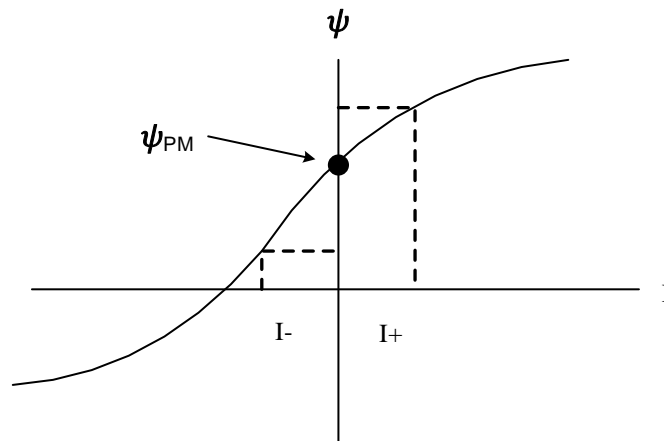
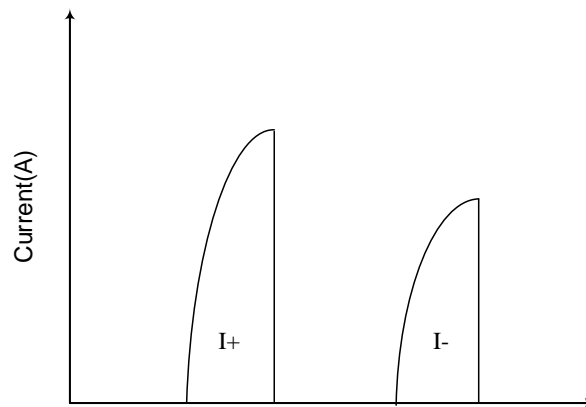

Figure 10: Total Motor Flux (ψ)
Figure 11: Current resulting from fixed time / voltage
Before we can describe our method, we need to see a simple picture of how the flux direction affects the current. If we look at the total flux in the motor (see Figure 10), it will be a combination of the Permanent Magnet (PM) flux and the flux created by exciting the stator, essentially the summation. So for a given current the flux will rise to a certain point. If we excite the stator for a specific value, the current that creates flux in the same direction will get there faster (faster rise time). The converse of this is that if we excite the stator with a specific voltage for a specific time, but in two directions, the current producing flux in the same direction as the PM flux will rise to a higher value in that given time. This is shown pictorially in Figure 11.